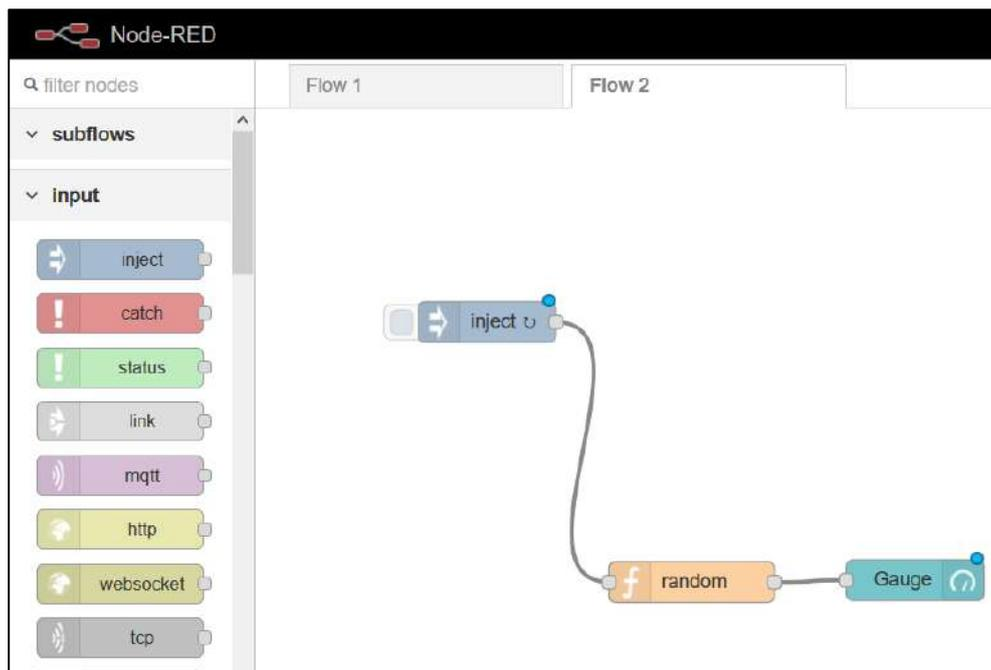
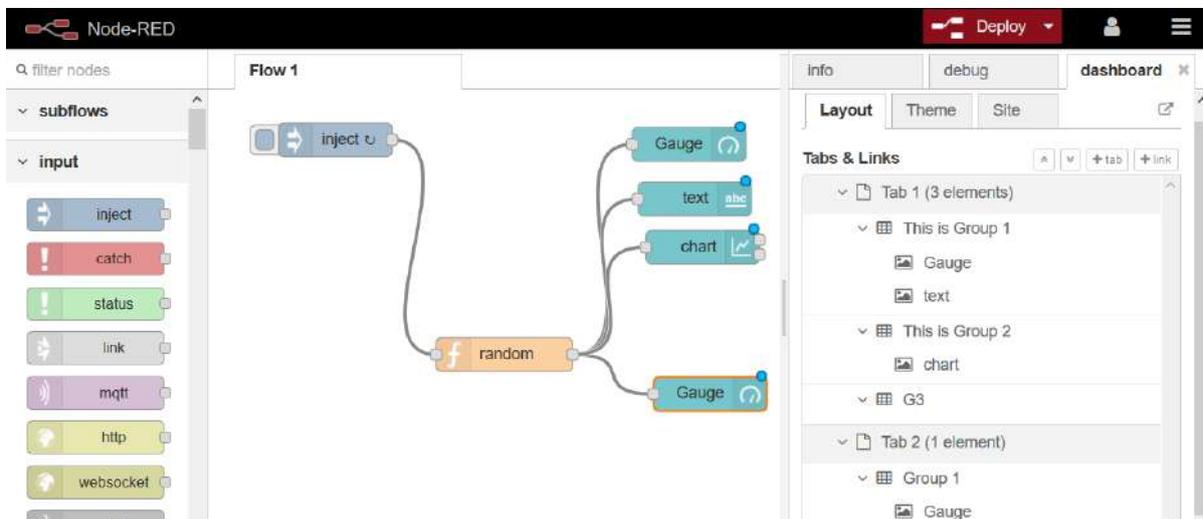

Figure 7.3 Node-RED flow example
Figure 7.12 Dashboard Groups and tabs Flow example
Then, wire the nodes together as per Figure 7.3 by connecting the grey dots on the right of the node (outputs) to the grey dots to the left of the node (inputs).
- LAYOUT sub-tab: defines where the Dashboard objects will be located, in a which dashboard tab and in which group of objects. The meaning of tabs and groups is explained in Figure 7.12 below.
Figure 7.12 shows the same flow designed as example (Figure 7.3), connecting to the “random number” generator function totally 4 different Dashboard output elements. 3 Elements are assigned to Tab 1 (2 items to Group 1, 1 item to Group 2) and 1 Element is assigned to Tab 2, Group 1.